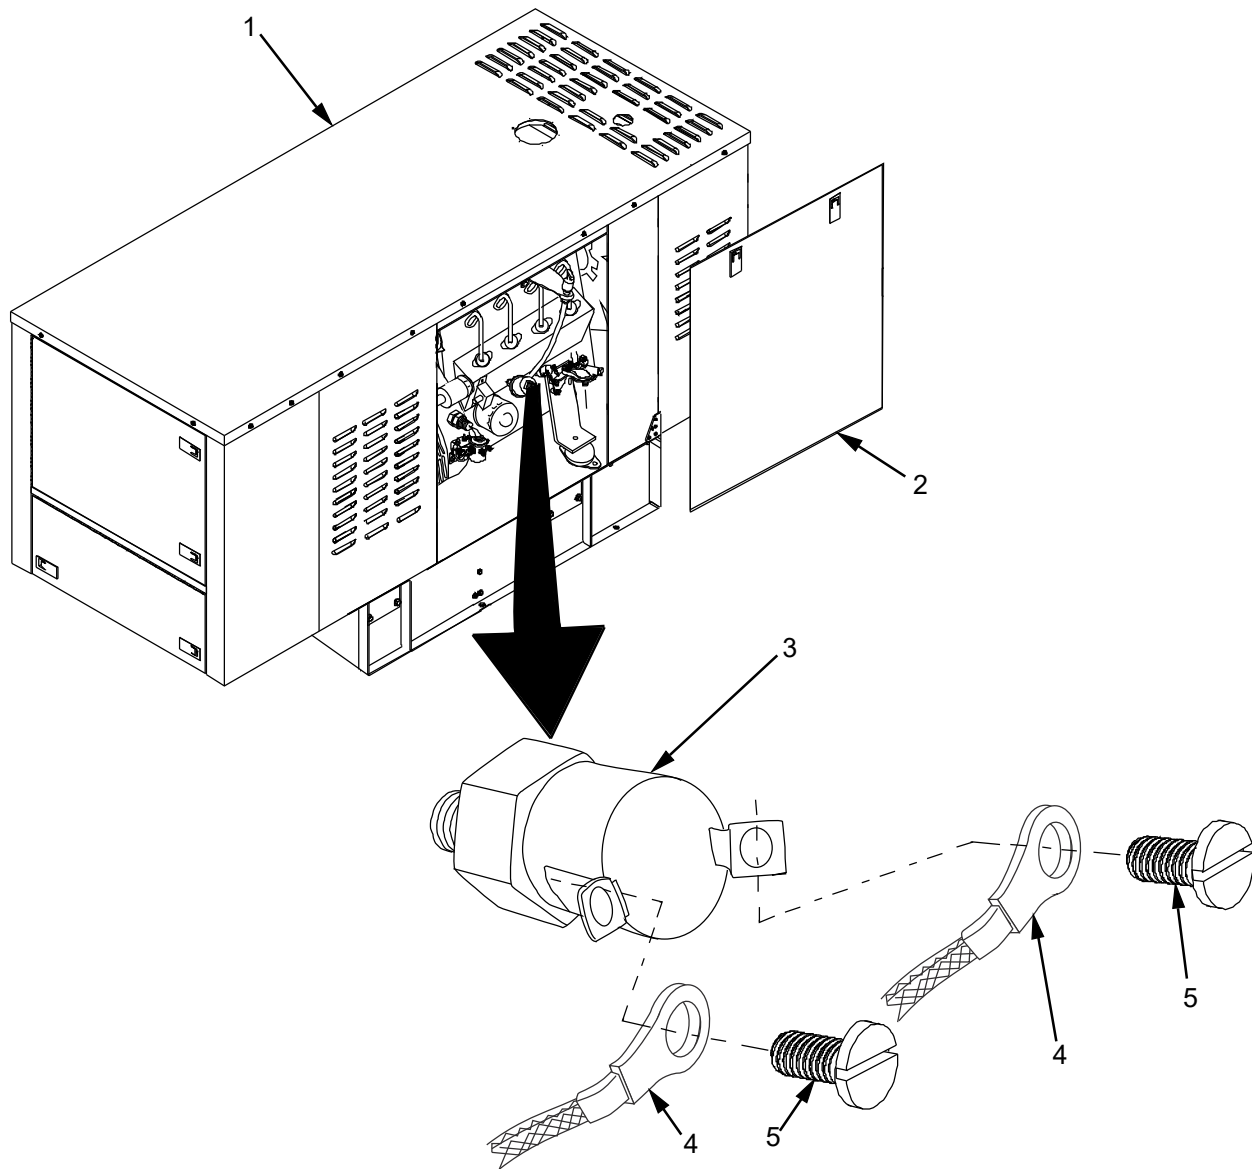

Figure 1. Oil Pressure Switch Removal/Replacement.
Do not get anti-seize compound on end of oil pressure switch (Figure 1, Item 3) or associated terminals.
2. Apply anti-seize compound to threads of oil pressure switch (Figure 1, Item 3).
When the following step is being performed, do not force oil pressure switch (Figure 1, Item 3) or cross thread. Failure to observe this caution can result in damage to the engine.
3. Install oil pressure switch (Figure 1, Item 3) onto mounting elbow and tighten.
Inspect wires (Figure 1, Item 4) and terminals for connectivity. Ensure that wire has not become brittle and that there are no nicks, cuts or other damage to wire.
4. Secure two wires (Figure 1, Item 4) to oil pressure switch with two screws (Figure 1, Item 5).
6. Install access panel (Figure 1, Item 2).
7. Start Genset (Figure 1, Item 1) in accordance with Genset Start Procedure (WP 0005).